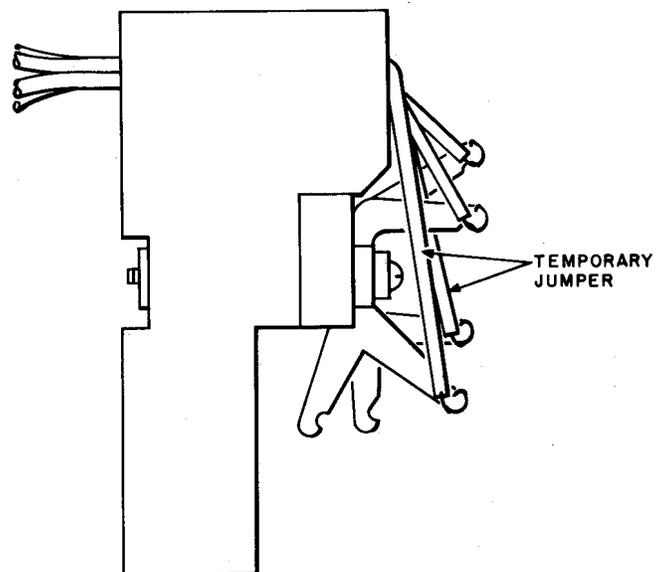

Fig. 13—Temporary Cross-Connections on 65- or Similar Type Terminal Strip Without Back Notch Terminals
9.08 On terminal strips, such as the 65-type, provided with extra terminals, connect the temporary jumper per Fig. 13. Local instructions should specify which terminal to use for the temporary jumper. Identify the temporary jumper with a KS-6660 or KS-16847 L1 indicator or by tagging. Use the other terminal for the permanent jumper.
both jumpers shall be connected as shown in Fig. 13 through 21. (Refer to paragraph 7.14.)